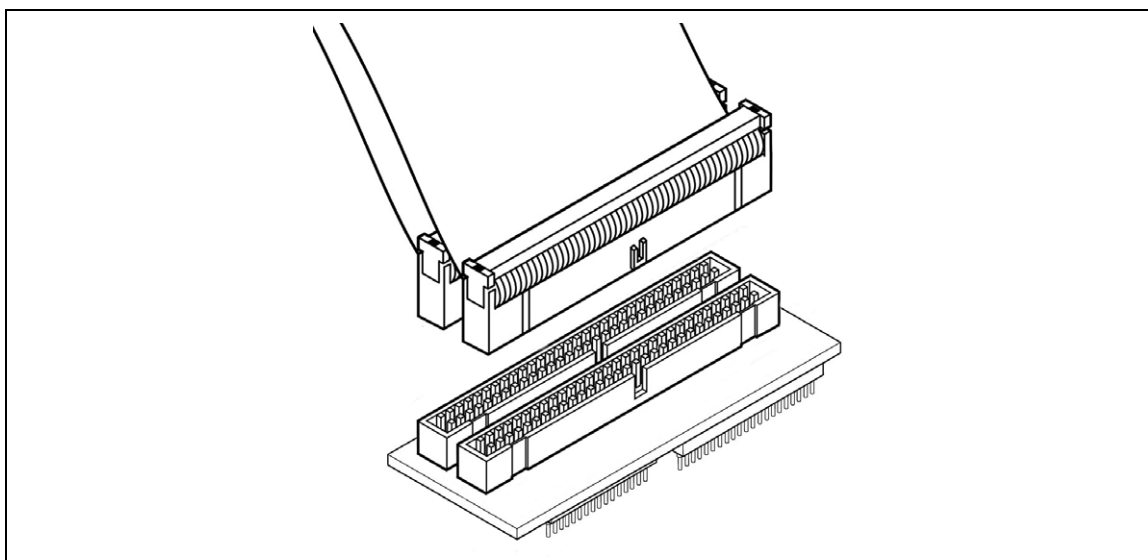

Figure 6: Connecting the two 50-pin flat cables to the SDIP adapter
- 3 Connect the other end of the two 50-pin flat cables to the adapter provided with standard kit (ref.: DB529), as shown in Figure 6.